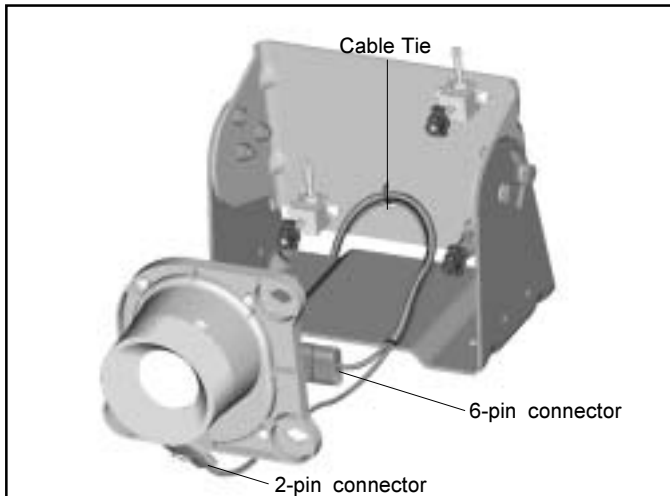

FIGURE 24 - CONNECTING THE CAMERA HARNESSES
3. Disconnect the 6-pin IR camera connector and the 2-pin window heater connector of the IR camera harness from the IR camera. Refer to Figure 24.
10. Plug the 2-pin connector of the IR camera harness into the window heater. Refer to Figure 24 on page 12.
11. Plug the 6-pin connector of the IR camera harness into the IR camera connection. Refer to Figure 24 on page 12.
9. Plug the 2-pin connector of the IR camera harness into the window heater. Refer to Figure 24.
10. Plug the 6-pin connector of the IR camera harness into the IR camera connection. Refer to Figure 24.